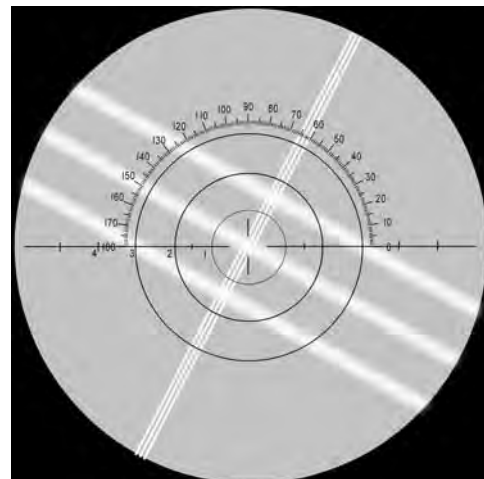

Figure IU-05 Target Centered
2. Move the lens so that the center of the target is located at the center of the reticle. Refer to Figure IU-05.
7. Move the target to the center of the Eyepiece. Refer to Figure IU-05.